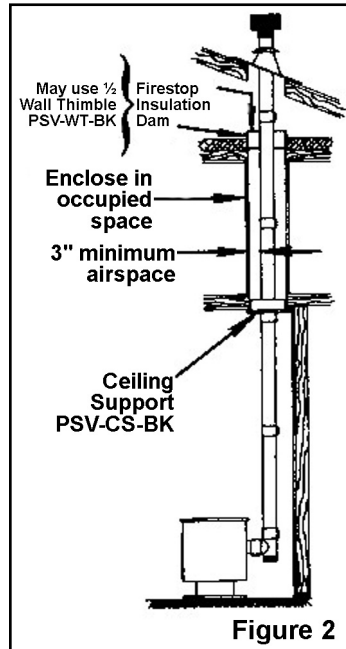
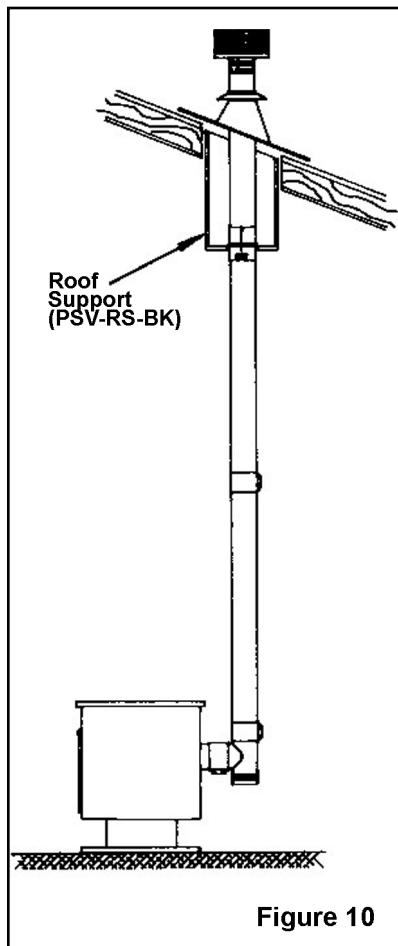
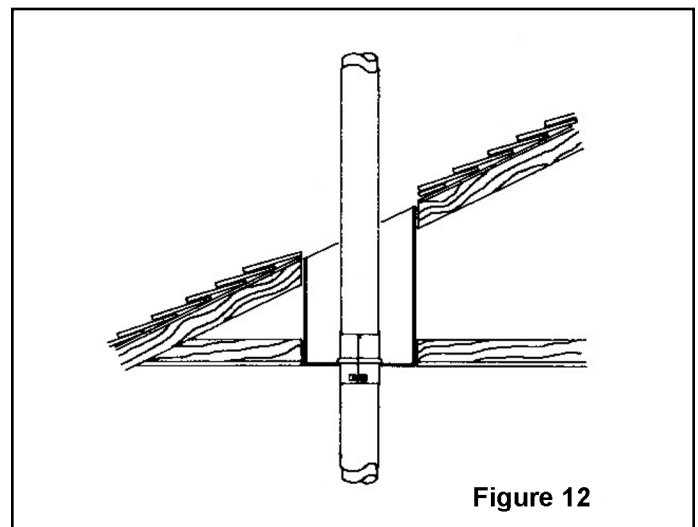
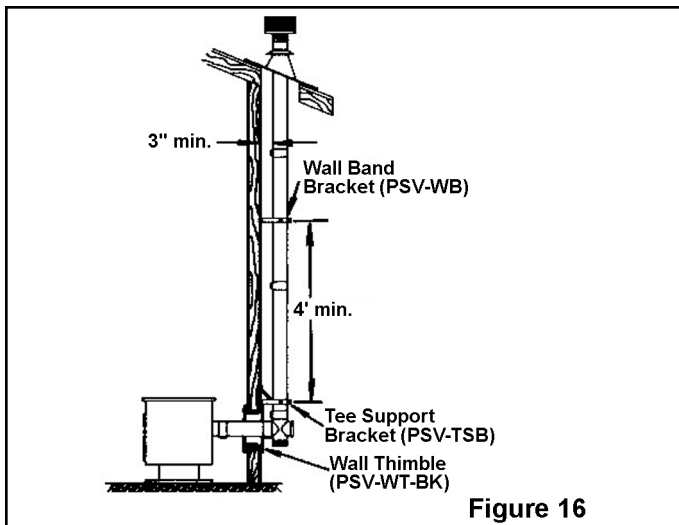

Figure 2
Figure 10
Figure 12
Figure 16
Pellet Vent may pass through a combustible wall by using a Wall Thimble (PSV-WT-BK, Figures 16 and 17). The vent may pass through the first combustible floor or ceiling by using a Ceiling Support (PSV-CS-BK, Figure 7) or Roof Support (PSV-RS-BK, Figure 10). If the vent passes through additional floors or ceilings, it must be firestopped (Figure 2). The firestop must be noncombustible and effectively close the opening between the outer wall of the pipe and the hole in the structure.
The vent may be enclosed by combustible construction. When enclosed, 3-inch minimum airspace clearance is required between the Model PSV and any combustible material. Do not put any type of insulation within the required 3-inch airspace. Where the vent passes through the attic space, it should be enclosed or dammed to prevent loose fill insulation from impinging into the 3-inch airspace clearance (Figures 2 and 11).
4. Provide boxed-in openings and firestopping at all additional floors or ceilings (Figure 2).
The roof support also may be used to pass through both the ceiling and the roof. This type of installation involved trimming the support to match the roof pitch and nailing the support to roof framing (Figures 10 and 14). Use this method also whenever attic space is limited, such as near eaves where the ceiling and roof converge (Figure 12).
1. Install a Tee (PSV-T) or Double Tee (PSV-DT) branch to the section of vent on the outside wall. The tee must be at least 3 inches from the wall (Figure 16).
5. Use a Wall Band (PSV-WB) within 4 feet from the tee support and at least every 4 feet thereafter (Figure 16).